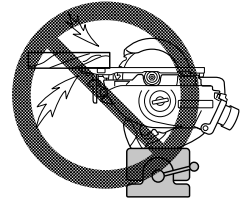

Fig. 4
5. Never attempt to saw with the circular saw held upside down in a vise. This is extremely dangerous and can lead to serious accidents. (Fig. 4)